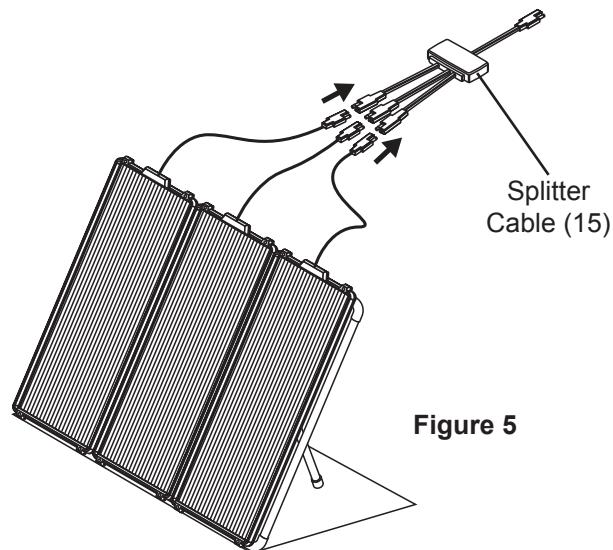

Figure 5
7. Connect end of lead wires coming from Solar Panels (14) to the Splitter Cable (15). See Figure 5, below.